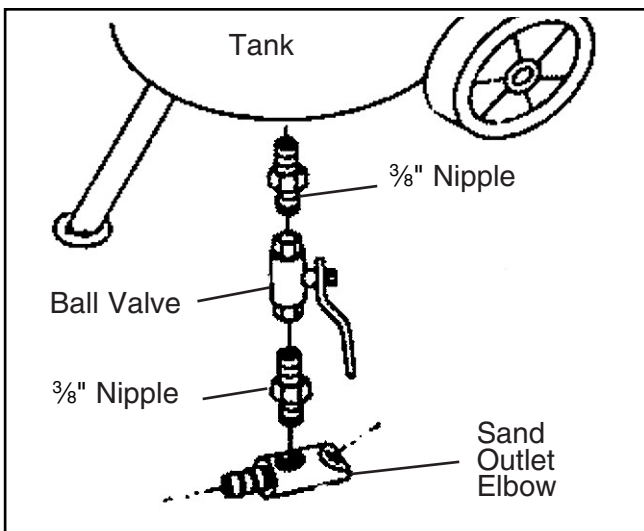

Figure 2. Sand outlet control installation.
2. Seal all pipe threads with Teflon tape, and assemble and install one of the four ball valves to the bottom of the tank with two $\frac{3}{8}$ " nipples, and the sand outlet elbow as shown in **Figure 2**.